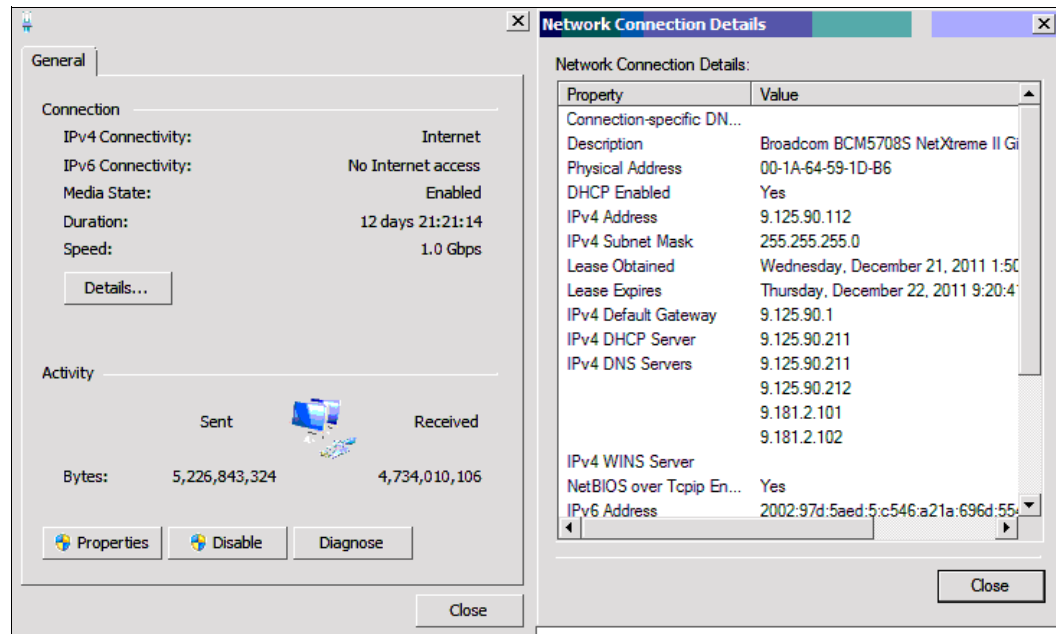

Figure 2-19 Windows networking window that shows the host IP address
5. In the Remote Control Status window, select each server in turn, and log in and use the OS windows to determine the host IP addresses of each server. For example, for Windows, you can use Network Connections by way of the Windows Control Panel to determine the host IP address, as shown in Figure 2-19.